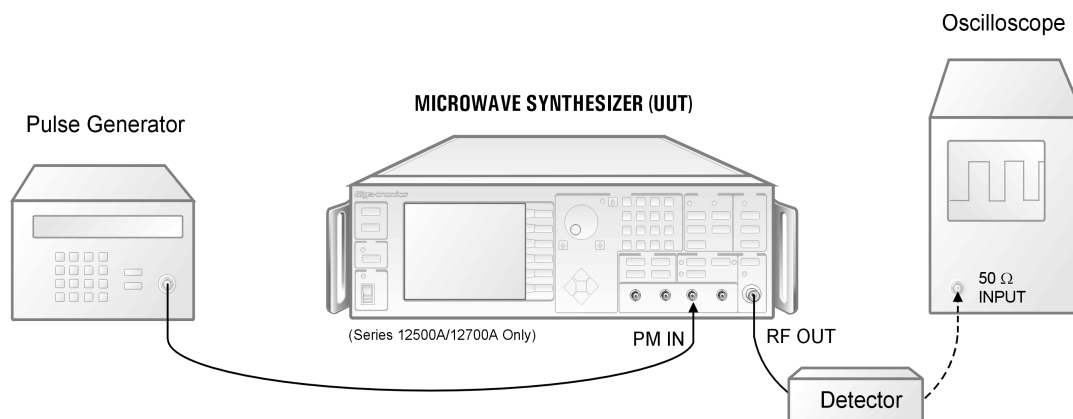

Figure 4-11: Pulse Modulation Accuracy Test
1. Connect the equipment as shown in Figure 4-11. The oscilloscope input impedance should be 50 Ω . Allow 30 minutes warm-up.